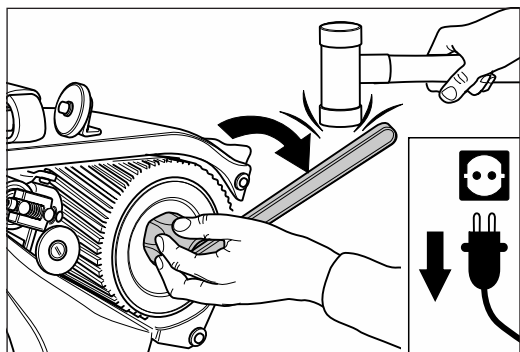

Fig. 54 Release the box nut (**left-hand thread**), if necessary by knocking gently with a soft hammer. **Never use a steel hammer!** Similar to figure.
- 8 Open the drum nut using the box wrench (see tool bag). Note that the drum nut has a **left-hand thread** (fig. 54)! If necessary, take a soft hammer to help you loosen the nut. **Never use a steel hammer!**